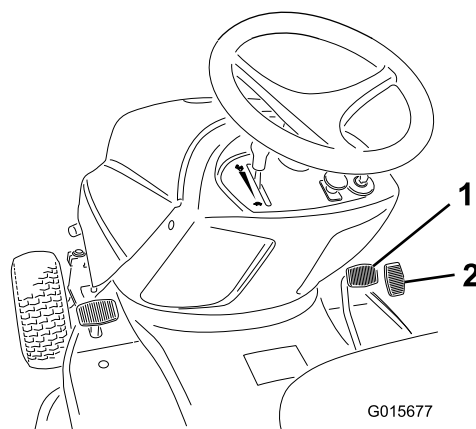

Figure 15
2. Place your foot on the traction control pedal and slowly press on the pedal to move forward (Figure 15).
2. Place your foot on the reverse speed pedal and slowly press on the pedal to move backward (Figure 15).